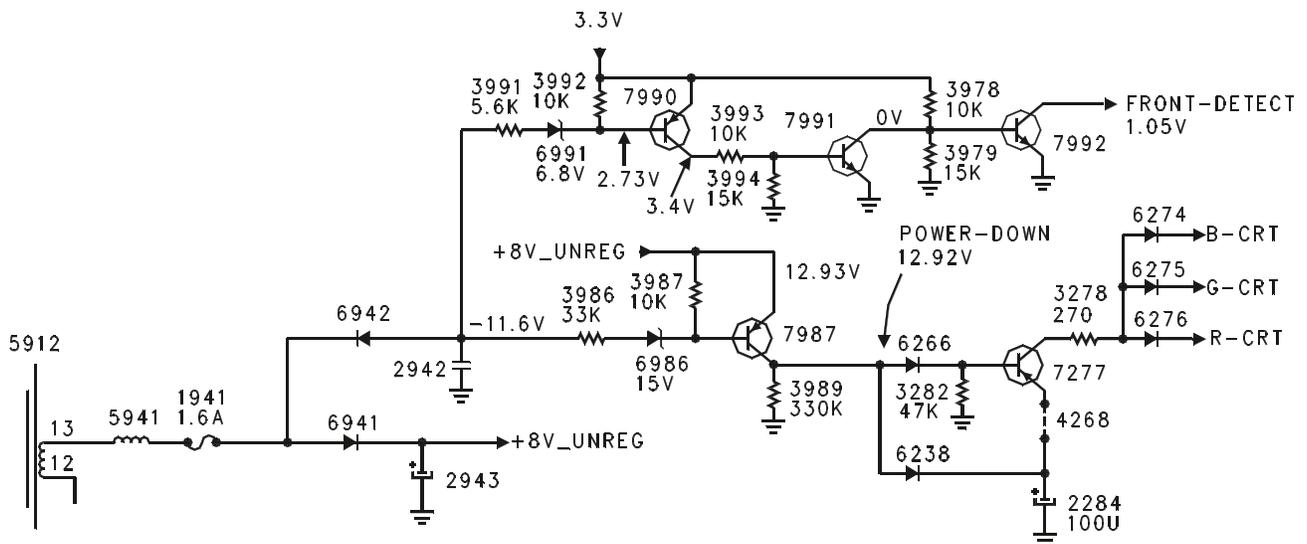

Figure 4 - Power Down and Front Detect
**Power Down and Front Detect (Figure 4)**